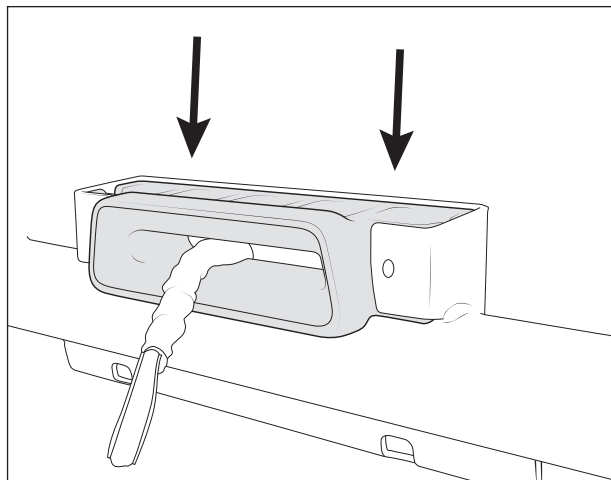

Figure 20
13. Run the winch cable through the Bison fairlead and drop into place (fig. 20).